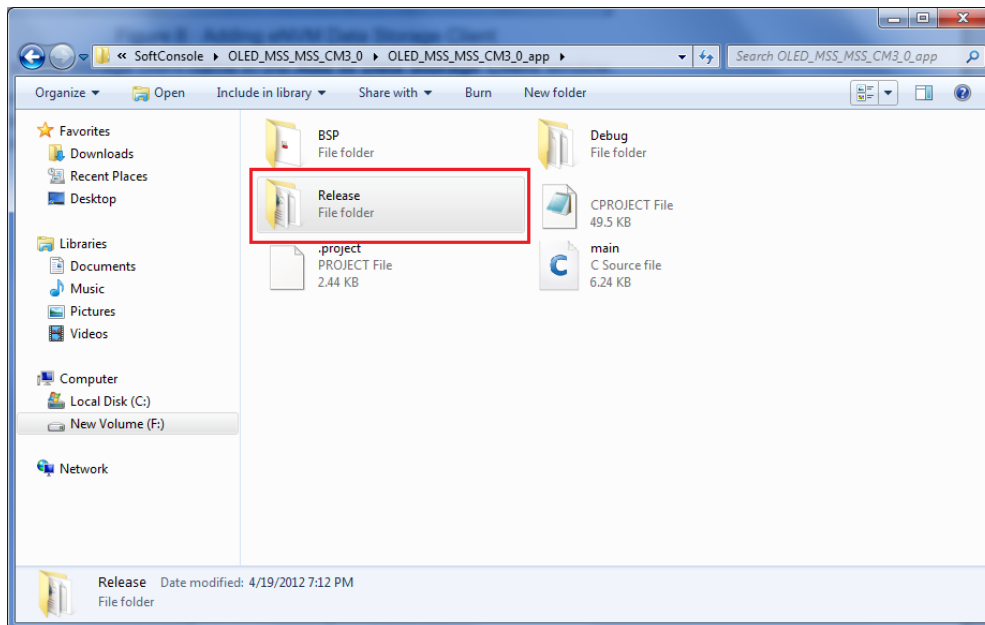

Figure 9 · Browsing for .hex File
6. Browse for .hex file generated in the Building an Executable Image in Release Mode section. The generated executable image can be found in the Release folder under SoftConsole project workspace as shown in the Figure 9 .